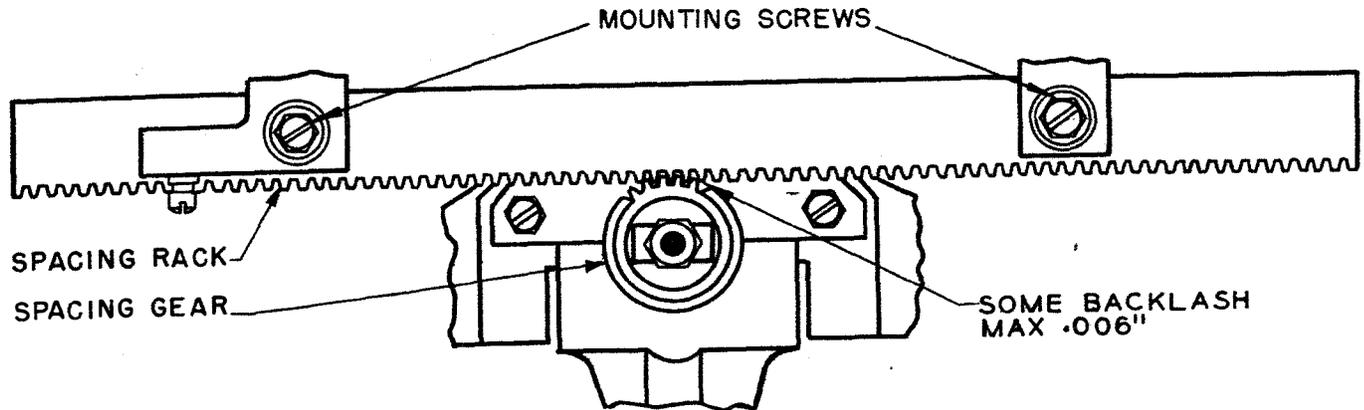

Figure 50
2.114 **Spacing Rack** should run on the spacing gear without bind at any point in the rack travel as gauged by feel. There should be some backlash, not more than 0.006 inch, between the rack and the spacing gear throughout its travel. See Figure 50.